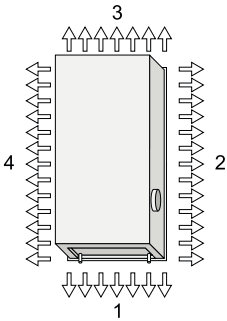
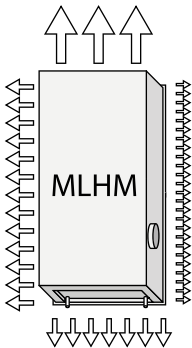

Figure 5. Top view, nozzle setting, PARASOL two-module unit, sides 1-4.
Figure 6. Nozzle setting example PARASOL two-module unit - MLHM.
***) All four sides on the unit can be set individually. The designation of the nozzle setting follows the order according to Figure 5. See Figure 6 for example.
***) All four sides on the unit can be set individually. The designation of the nozzle setting follows the order according to Figure 5. See Figure 7 for example.